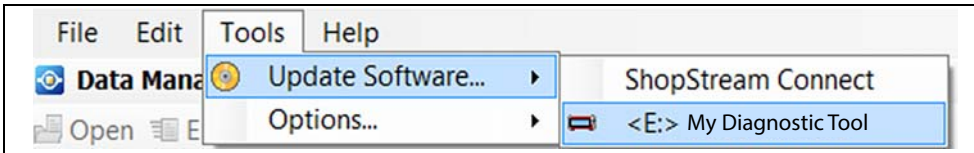

Figure 16-12
1. Select **Tools > Update Software >** (diagnostic tool type - e.g. **ETHOS Edge**, **MODIS Edge**, **SOLUS Edge**, etc.) from the Menu bar (*Figure 16-12*).